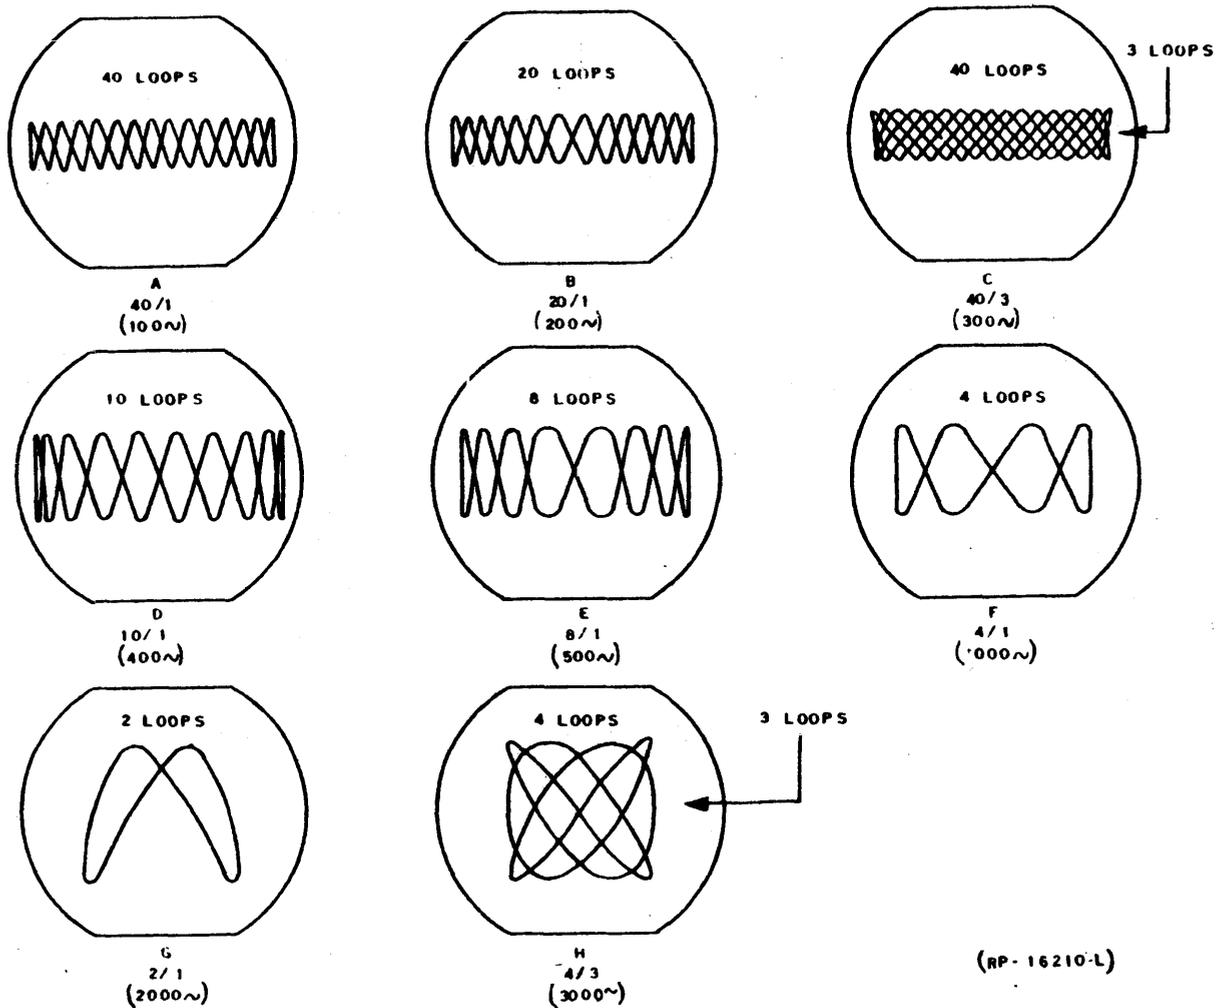

FIG. 1 OSCILLOSCOPE CALIBRATION FREQUENCY PATTERNS
13.4 Set the FREQUENCY CPS decade dials successively to read each frequency shown in Table 1 and at each frequency setting, adjust the associated CAL control to obtain a stationary pattern on the oscilloscope screen that is similar to the pattern shown in Figure 1 for the corresponding frequency.
13.41 The patterns shown in Figure 1 will be observed on the oscilloscope screen at only certain phase relations while the pattern is slowly rotating.